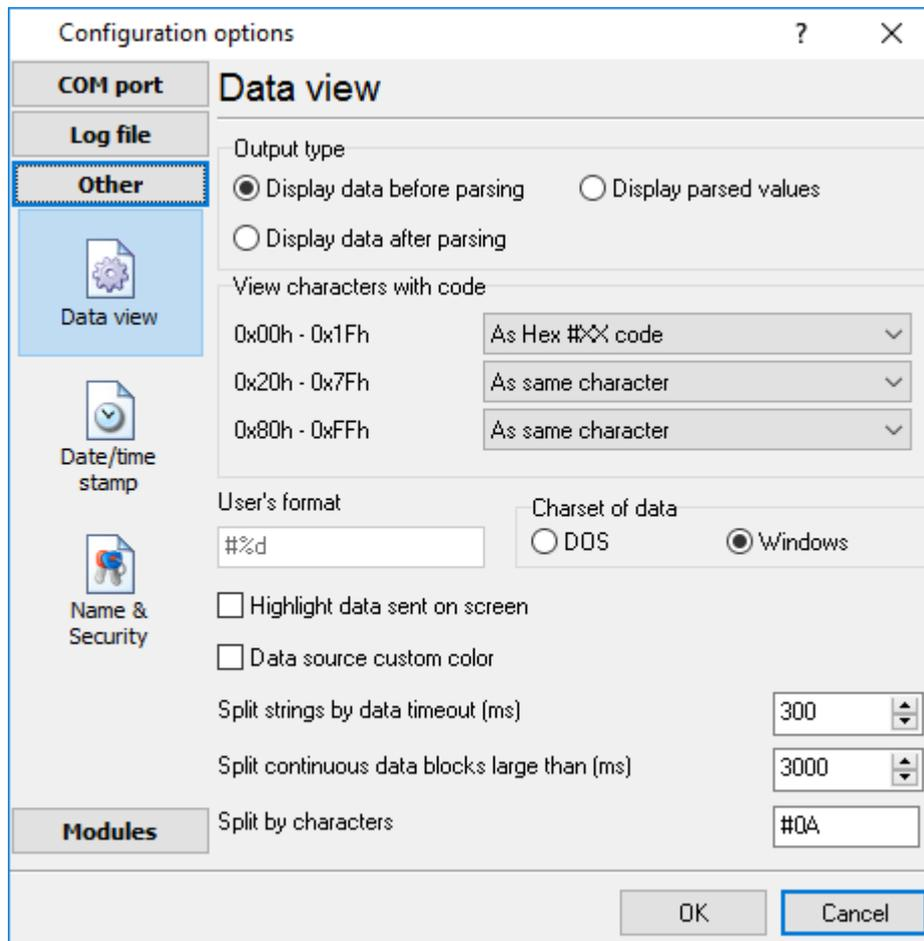

Fig. 9. Data view
8. **Split by characters** - this option allows to visually splitting continuous data flow in the program window using the specified symbols. For example (fig. 9), the program will use a character with the 0Ah hexadecimal code that is equal to the "LF" ASCII code.